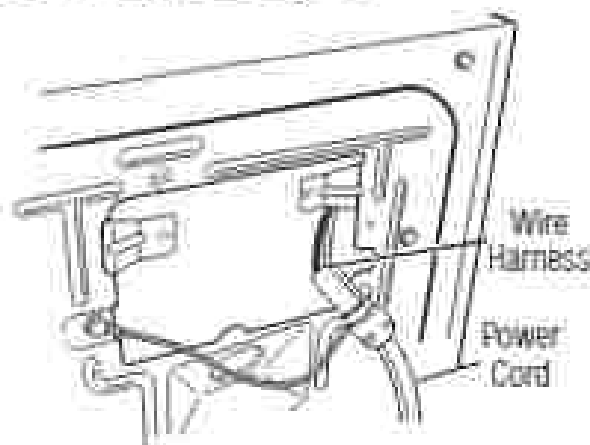
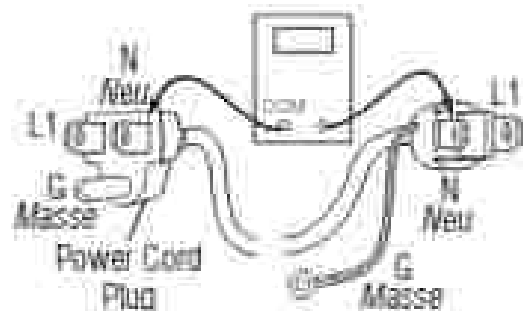

Figure 4 - Power cord-to-wire harness connection for gas dryer.
Figure 5 - Power cord terminals, gas dryer.
2. Remove the cover plate from the top right corner of the back of the dryer. See figure 4, page 3-10.
3. Check that the power cord is firmly connected to the dryer's wire harness. See figure 4.
5. With an ohmmeter, check for continuity between the neutral (N) terminal of the plug and JS-3 (white wire) on the ACU. The left-hand side of figure 5 shows the position of the neutral terminal (N) on the power cord plug. Also see figure 2, page 3-9.
- If there is no continuity, disconnect the white wire of the main harness from the power cord at the location illustrated in figure 4. Test the continuity of the power cord neutral wire as illustrated in figure 5. If an open circuit is found, replace the power cord. Otherwise, go to step 8.
- If there is no continuity, check the continuity of the power cord in a similar way to that illustrated in figure 5, but for power cord's L1 wire.
10. Using Figure 5 and the strip circuit below, check for the resistance values of the motor's Main and Start winding coils as shown in the following table.